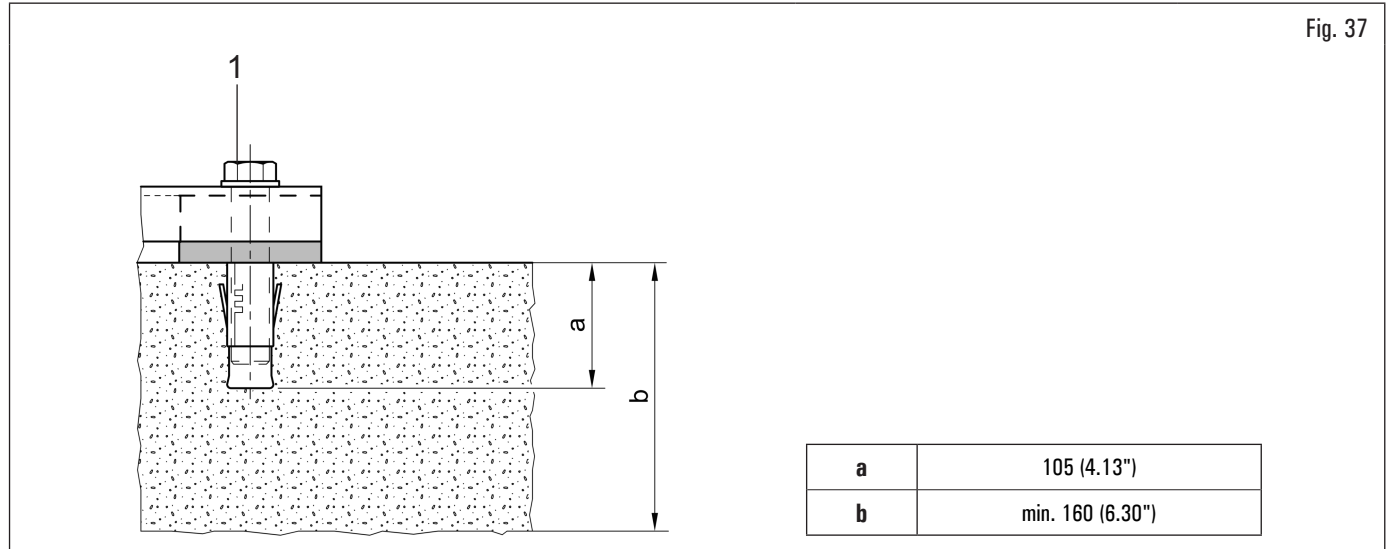

Fig. 37
The packed equipment is secured to the support pallet through the holes on the frame and indicated in Fig. 37. These holes can be used to secure the equipment to the floor, using suitable concrete anchors (not included). Before concrete anchoring to floor, check that all the anchor points are flat, or level in contact with the floor. If not, shim between the equipment and the floor, as indicated in Fig. 37.
- To secure the equipment to the floor, use anchoring bolts/studs (Fig. 37 ref. 1) with a threaded shank M8 (UNC 5/16) suitable for the floor on which the tyre changer will be secured and in a number equal to the number of mounting holes on the bottom frame;